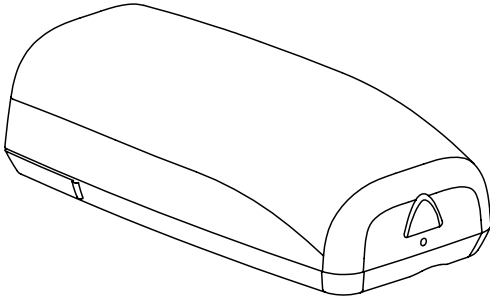

Figure 1: 763 Wi-Fi Module
2. Remove the 763 cover by pressing the triangle-shaped button at the end of the 763. See Figure 1.